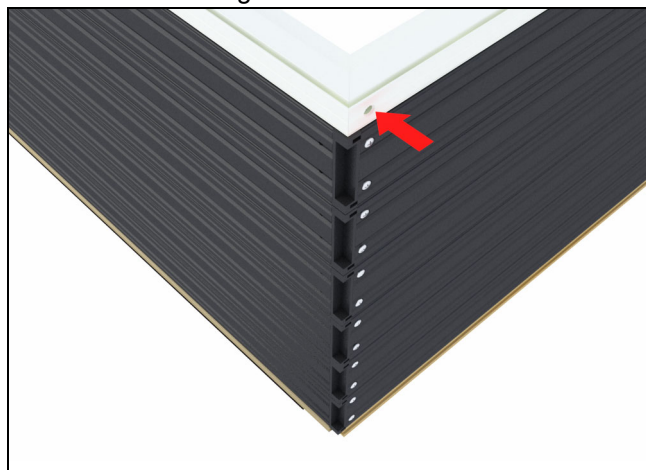

Figure 32
4. Do not install screw into frame cladding miter at this time. See figure 32.